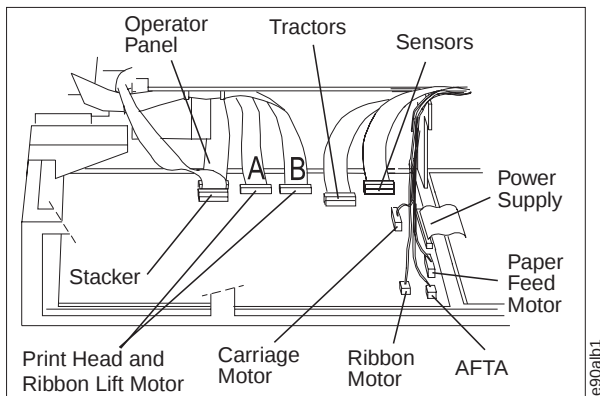
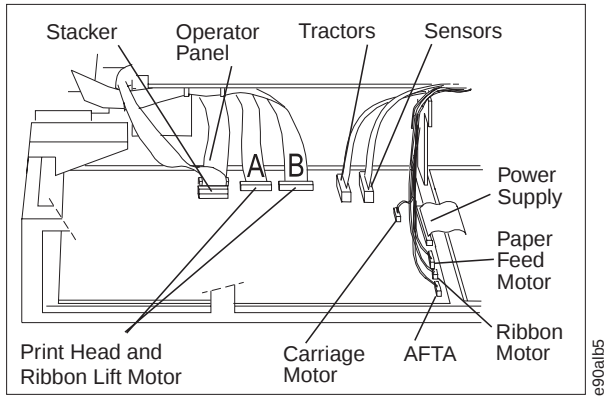

Figure 114. Model A00 Early-Level Logic Board Connector Locations
Figure 115. Model A00 Late-Level Logic Board Connector Locations
- d. Use Figure 114 and Figure 115 on page 373 as reference for the connector locations and cable paths to aid installation.